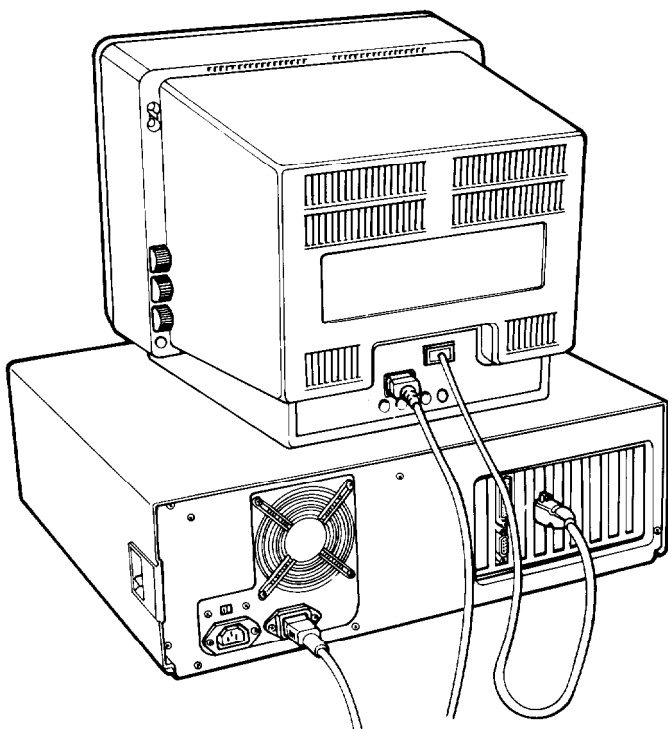

Figure 1-5. Connecting *the monitor*
3. Connect the appropriate end of the monitor cable to your monochrome or color/graphics card connector at the back of the main unit, as shown in Figure 1-5. If the plug has retaining screws, tighten them with a screwdriver.